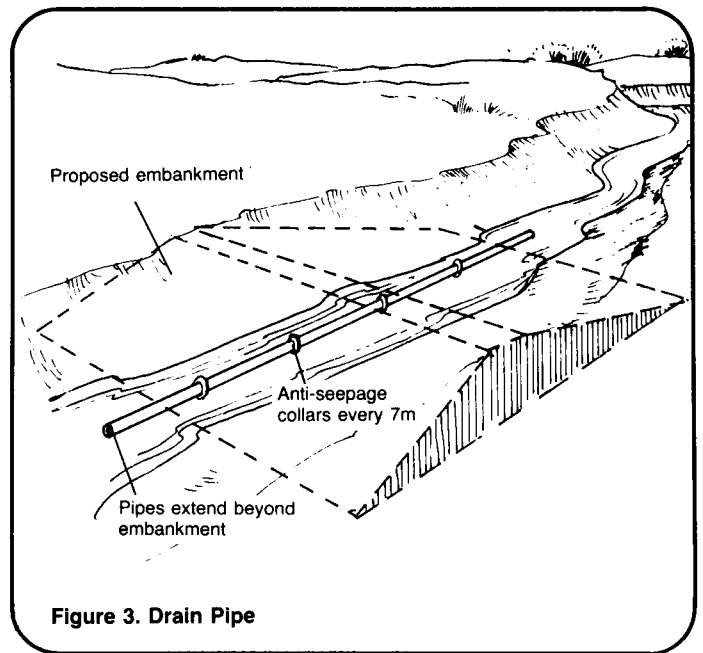

Figure 3. Drain Pipe
1. Divert the flow of water away from the dam construction site. Two methods are available. The first and best method is to install a large diameter steel pipe in the stream as shown in Figure 3. Place the opening